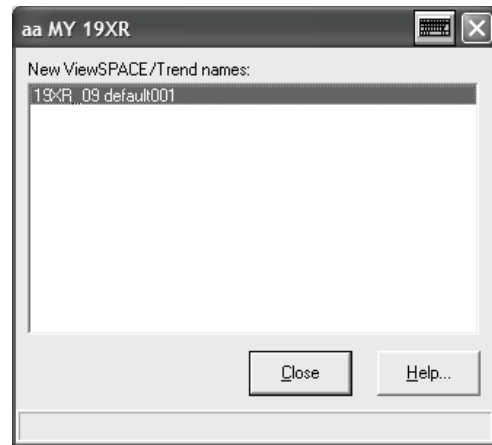

Fig. 23 — Confirmation Prompt
- A confirmation screen will be displayed of the clone to be made. Press the “Close” button” (Fig. 23).